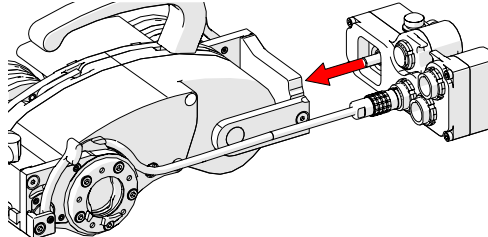

Fig. 86 - Align with drive module mount
2. Align the umbilical to the umbilical mount of the drive module (Fig. 86).